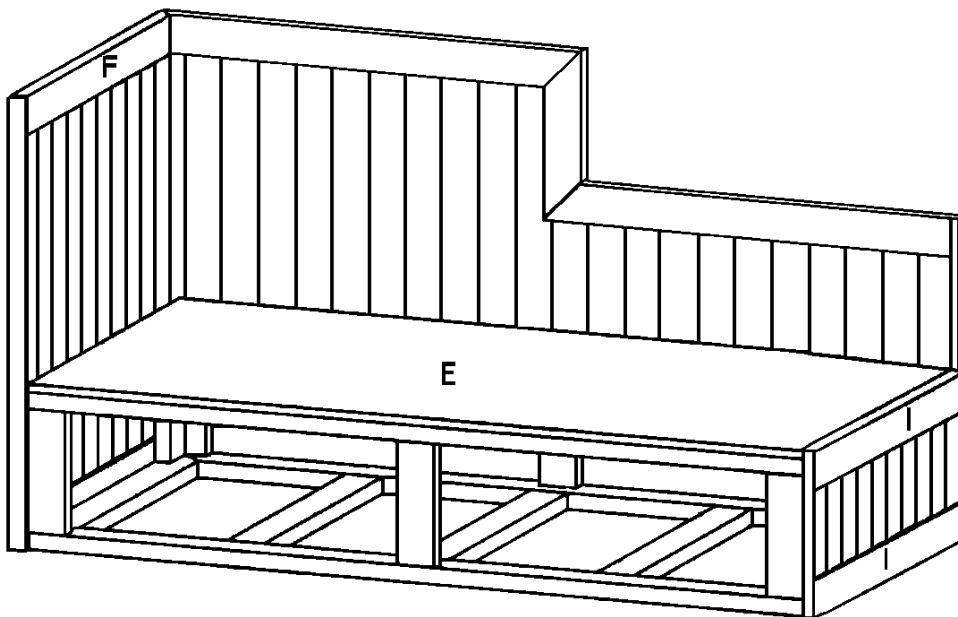

Figure 13
- Attach the back assembly to the back of the bed frame, as shown in *Figure 13*. Screw through the bottom of the back assembly into the bottom base frame. Also screw through the top of the back assembly into the top of the headboard assembly and through the short back side (S) into the top of the footboard assembly. Use 2-1/2-inch screws spaced about every 6 inches.